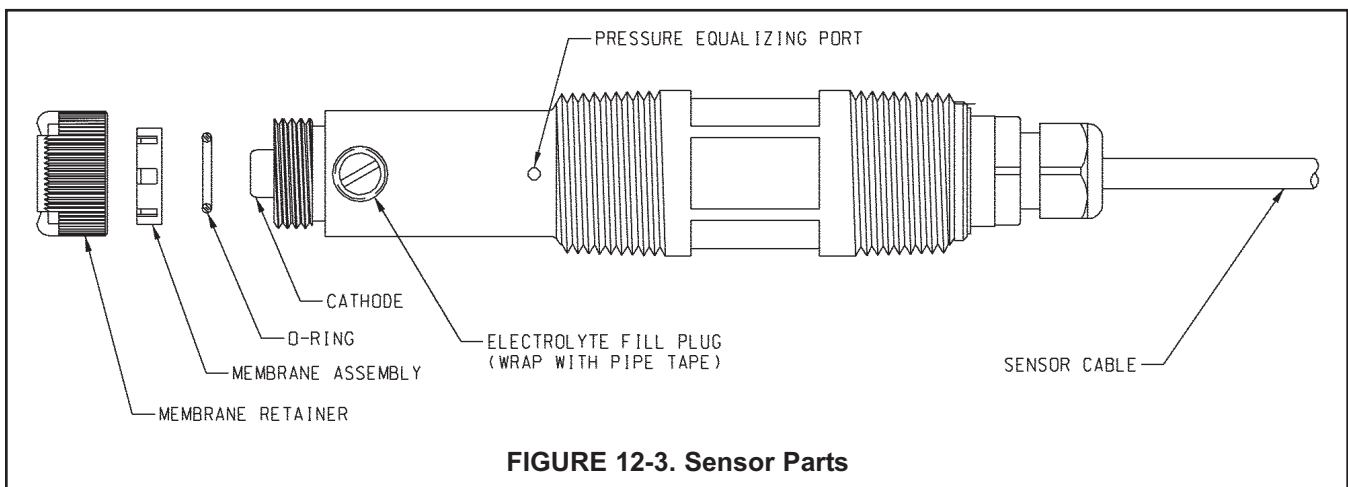

FIGURE 12-3. Sensor Parts
2. Unscrew membrane retainer. Remove the membrane assembly and O-ring. See Figure 12-3.
1. Unscrew the membrane retainer and remove the membrane assembly and O-ring. See Figure 12-3.
9. Insert a small **blunt** probe, like a toothpick with the end cut off, through the pressure equalizing port. See Figure 12-3.